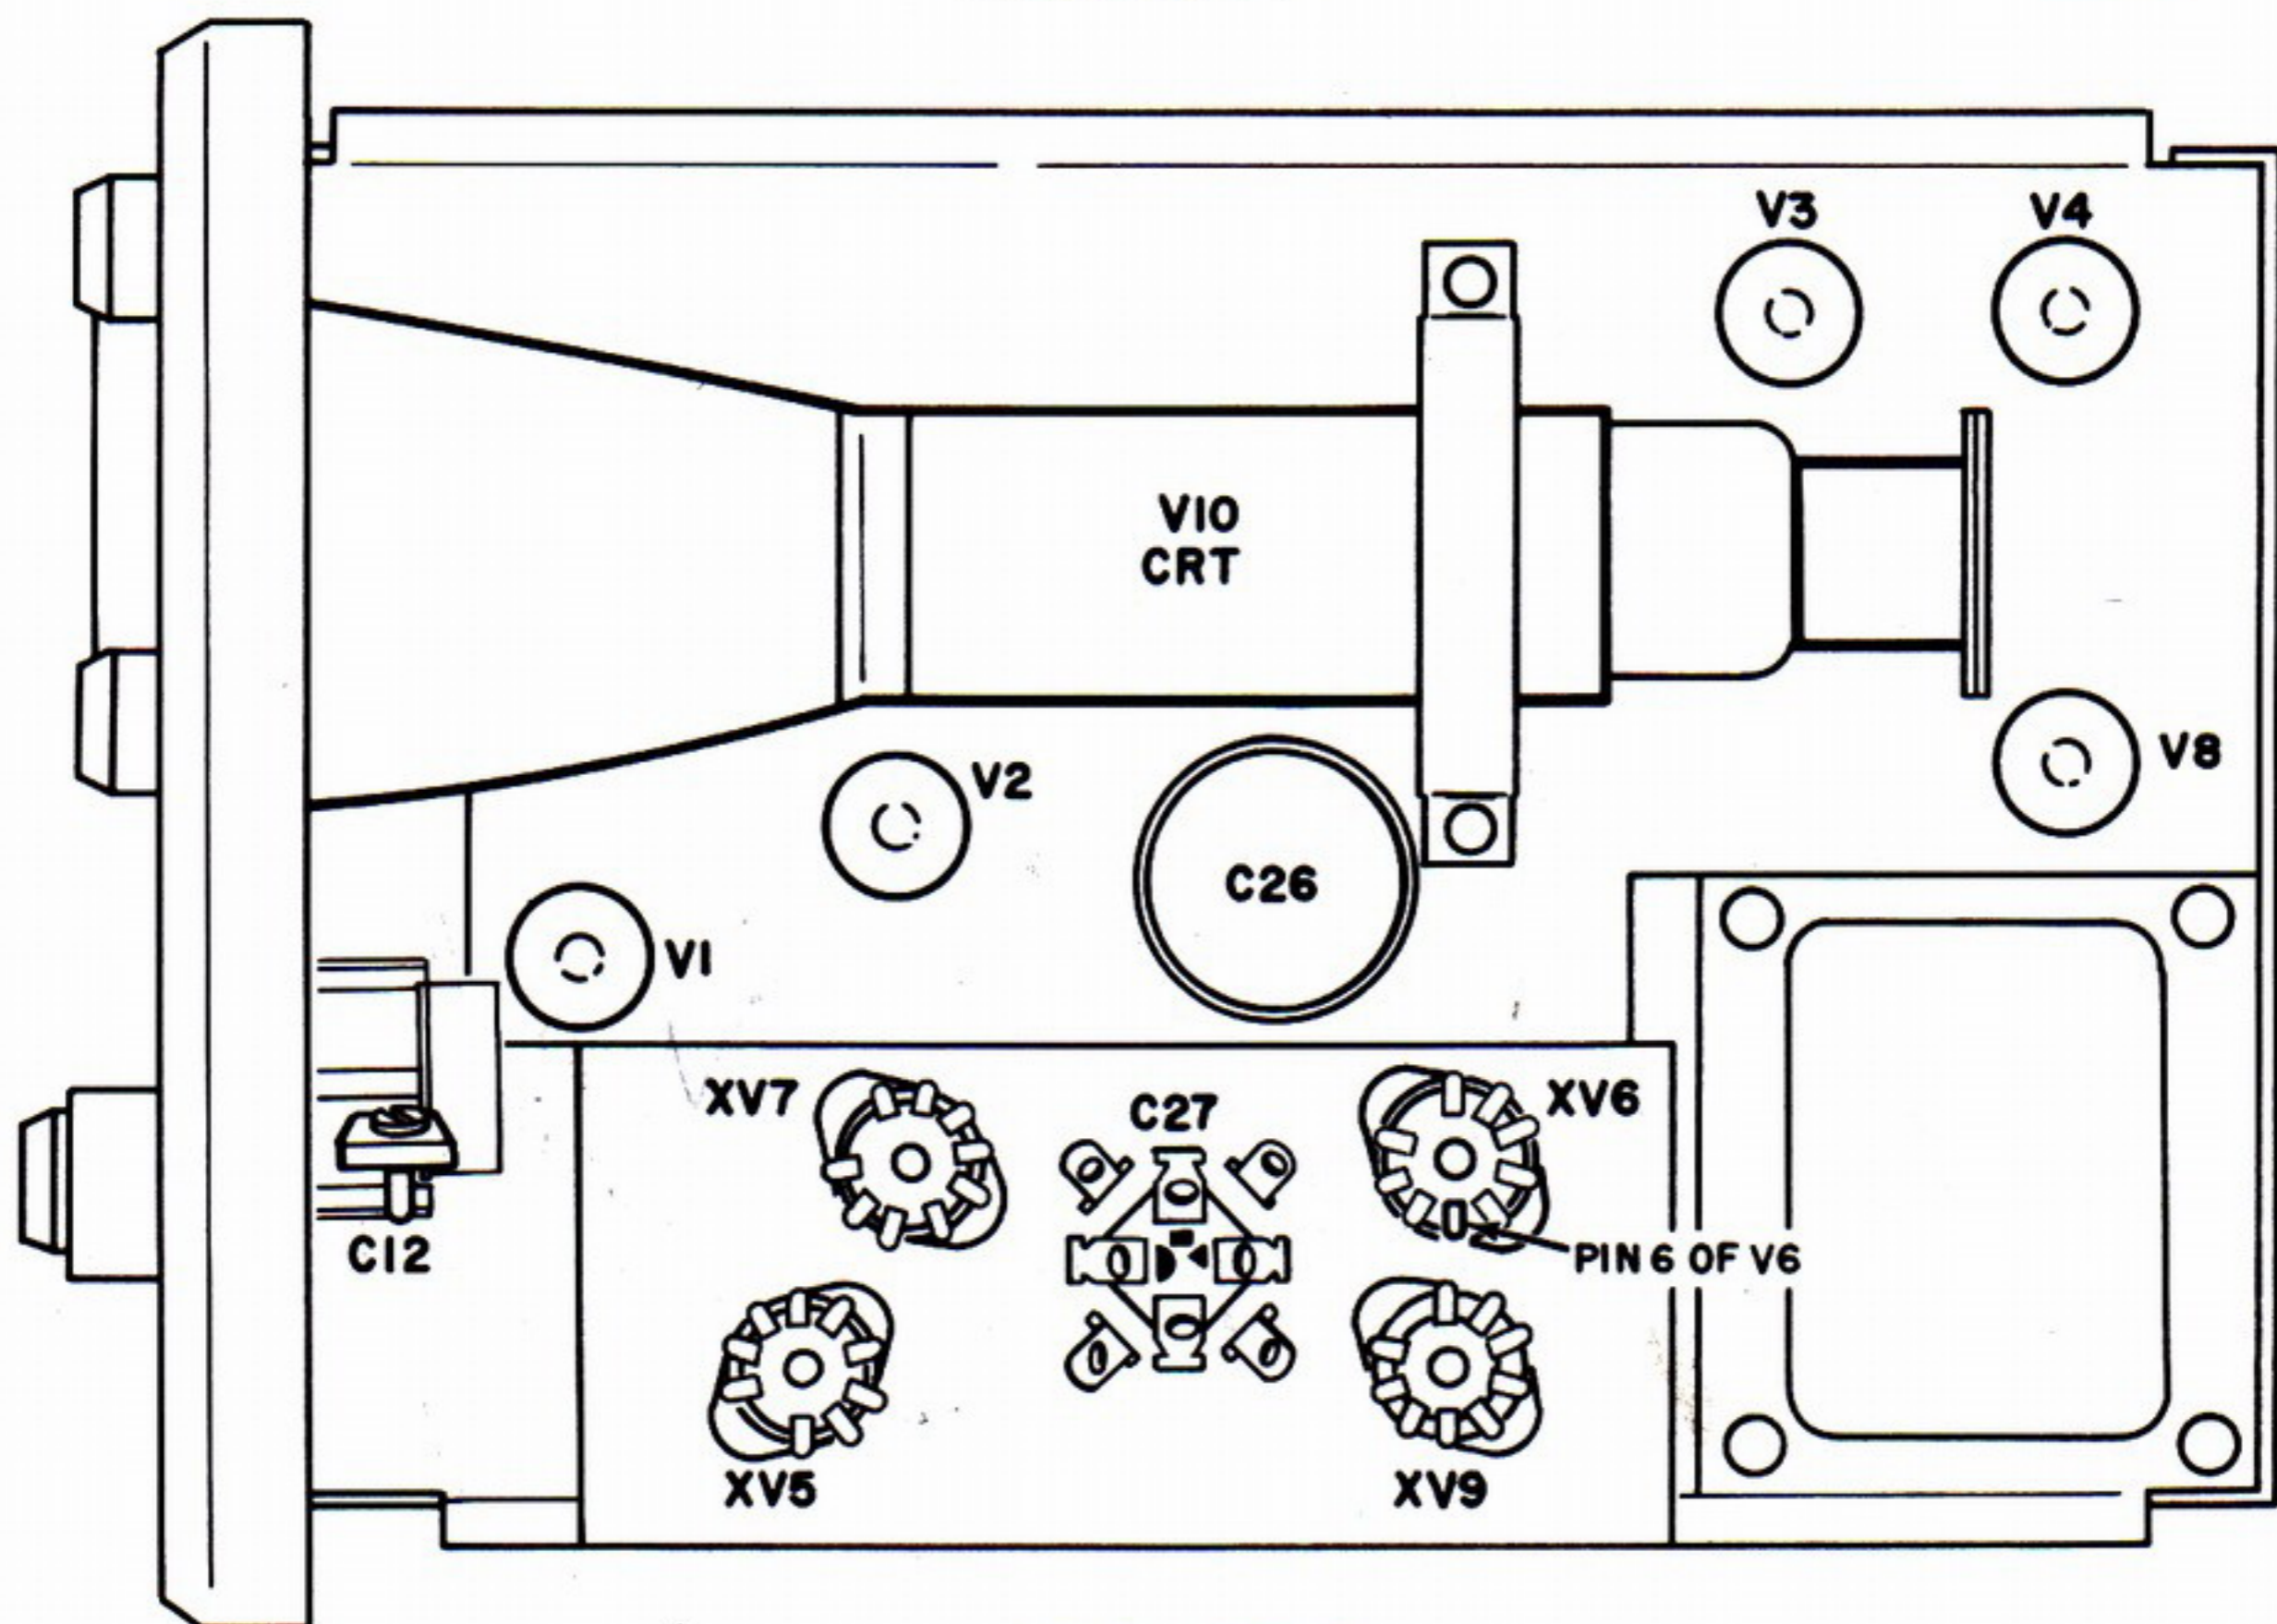

FIGURE 8
e. Now set the VERT. ATTENUATOR switch at the 1000 position. At this position, a higher sawtooth voltage than is available from the SAWTOOTH ($\sim\sim$) pin jack is required to make the trimmer adjustment, which can be obtained from the output of the horizontal amplifier. Therefore, remove the jumper between the SAWTOOTH ($\sim\sim$) pin jack and the VERT. binding post. Instead, connect a jumper between pin 6 of V6 (See Fig. 8) and the VERT. INPUT binding post (AC-DC switch in AC position). The VERT. GAIN control remains turned to maximum. With trimmer C2 adjusted improperly, the trace will appear as in Fig. 9a or Fig. 9b. If this is the case, adjust trimmer C2 until the hook disappears and the trace is a straight line as in Fig. 9c.
b. Next, set the SWEEP RANGE switch at the TV-HOR. position and apply a 15,750 cps signal taken from the horizontal section of any tv set across the VERT and G binding posts. Adjust the VERT. ATTENUATOR switch and the VERT. GAIN controls to obtain a drifting pattern entirely on screen, but do not touch the SWEEP VERNIER. Now adjust trimmer C12 (Fig. 8) until a stationary pattern of two complete cycles is obtained on the screen, indicating a 7875 cps sweep frequency. This completes the adjustment, with the result that whenever the SWEEP VERNIER is set to produce a 30 cps sweep (indicated by two cycles of the 60 cps signal) with the SWEEP SELECTOR set at TV-VERT, resetting the SWEEP SELECTOR to TV-HOR without touching the SWEEP VERNIER will automatically give a 7875 cps sweep.